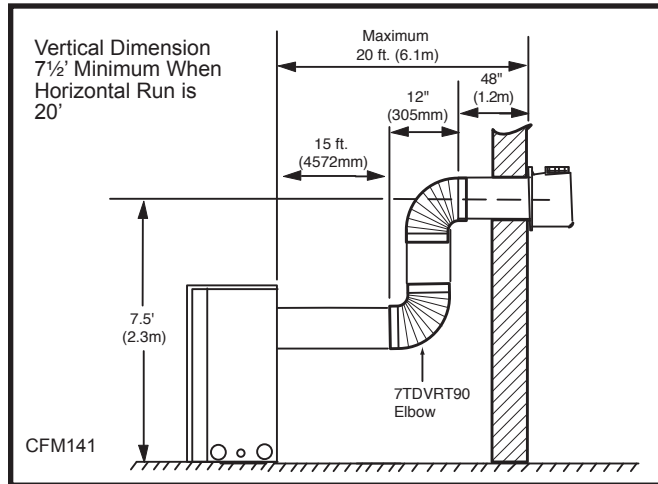

Fig. 21 Maximum number of 90° elbows is three (3).
- The maximum horizontal vent run is 20 ft. (6.1 m) when the vertical vent rise is 7½ ft. (2.3 m). (Fig. 21)
- The maximum number of 90° elbows per side wall installation is three (3).